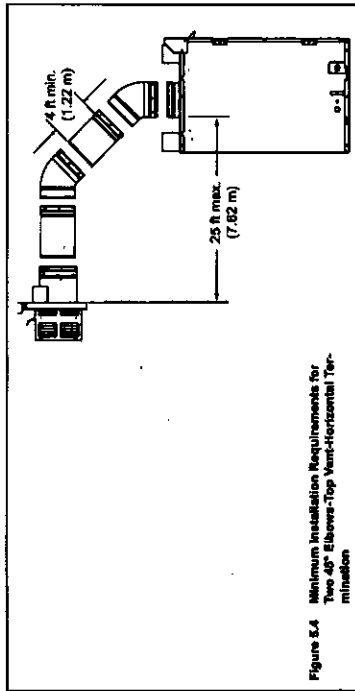

Figure 5.4 Minimum Installation Requirements for Two 45° Elbows—Top Vent—Horizontal Termination
To replace the first starter elbow with two 45° elbows, refer to Figure 5.4 All other 90° elbows can be replaced with two 45° elbows.
- Elbows may be placed back to back anywhere in the system as long as the first 90° elbow is a starter elbow except as shown in Figure 5.4.